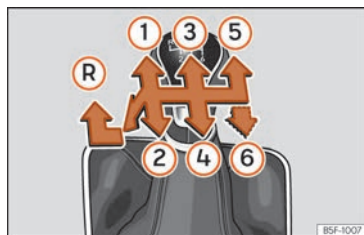

Fig. 52 Gear shift pattern of a 5 or 6-speed manual gearbox.
The position of the gears is indicated on the gearbox lever » » » **Fig. 52**.
- With the gearbox lever in neutral, push it downwards, move it to the left as far as it will go and then forwards to select reverse » » » **Fig. 52 (R)**.